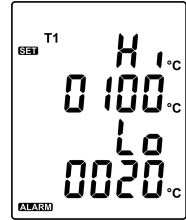

Fig.13
- (1) Press the  or  button to turn on or off.
- (2) When setting on mode, press the  button to set Hi and Lo limit. (see Fig.13)